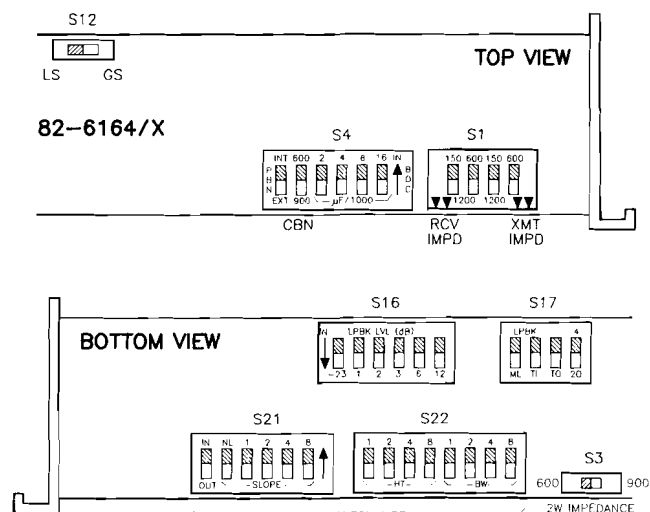

figure 1. Issue 2 6164/X option switch locations
1.03 When optioning the Issue 2 6164/X modules, please disregard figure 5 and the terminating-impedance optioning information in paragraph 3.07 and table 5 of the attached practice. Instead, refer to figure 1 of this addendum and set the *RCV IMPD* and *XMT IMPD* positions of S1 as follows:
1.05 When setting switch options on the Issue 2 6164/X modules (see figure 1 of this addendum), be certain to set the receive-equalizer bypass switch (*IN/OUT* position of the *SLOPE* DIP switch, S21) as follows before adjusting the equalizer: